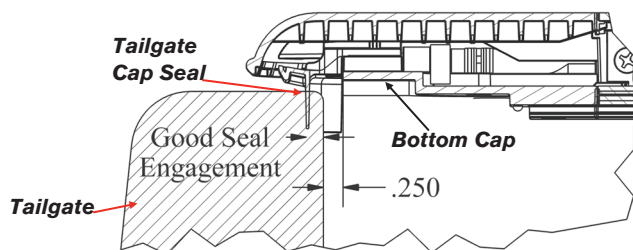

FIG. 6A
- Shut the tailgate and pull the rails back until the tailgate cap seals have good engagement with your tailgate. A good way to check for proper engagement is to make sure the bottom cap and tailgate have 1/4" gap (FIG 6A).